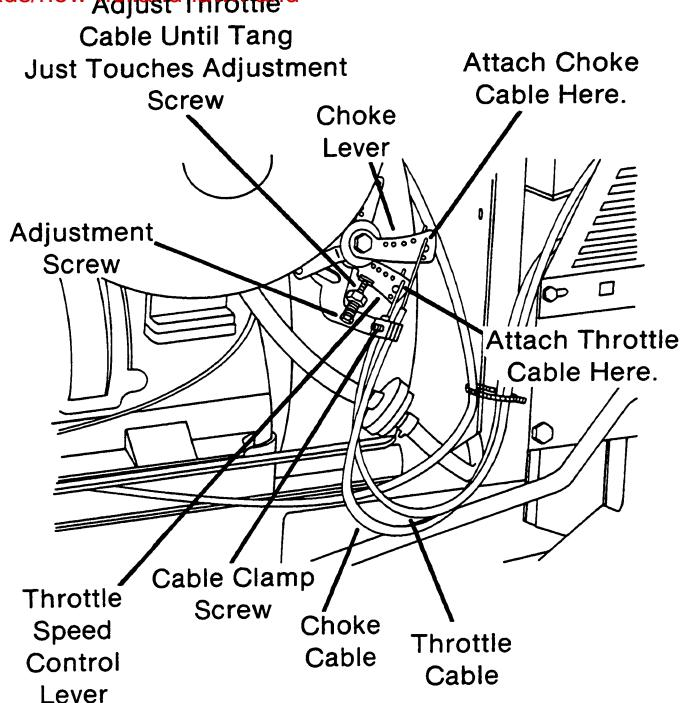

FIG. 4
I. Loosen cable clamp screws, securing throttle and choke cables to left side of engine, far enough so both cables can be removed. (Fig. 4) Unhook throttle cable end (inner cable) from throttle speed control lever. Unhook choke cable end (outer cable) from choke lever.